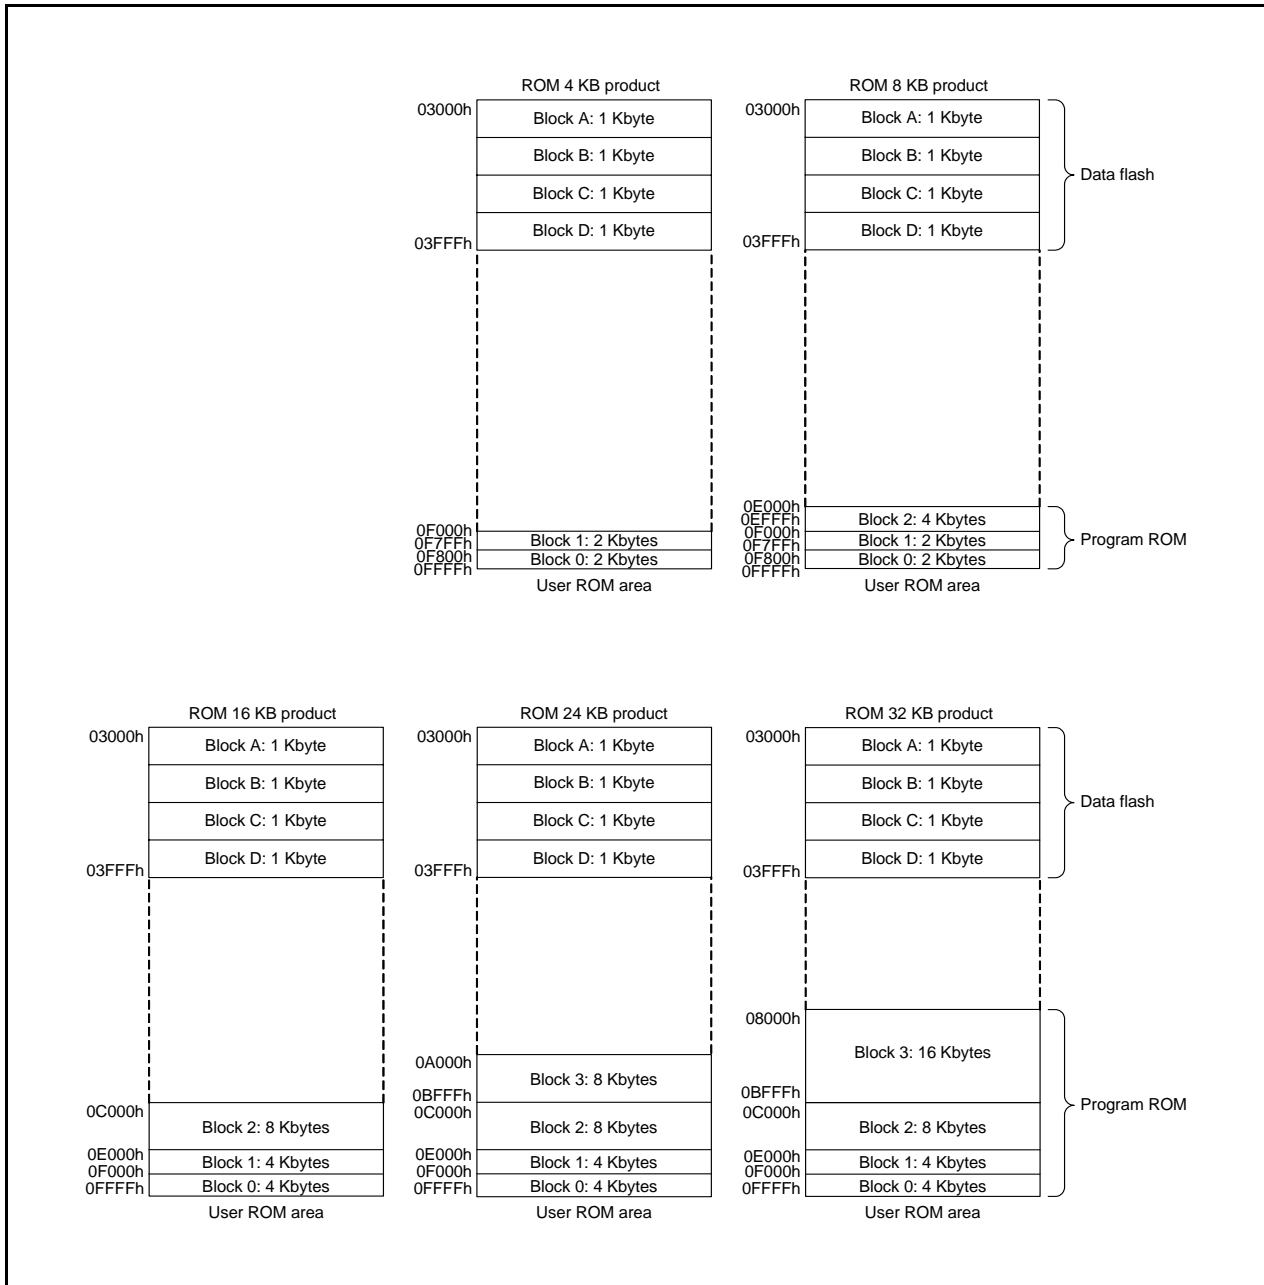

Figure 31.1 R8C/33A Group Flash Memory Block Diagram
- The number of blocks and block division vary with the MCU. Refer to **Figure 31.1 R8C/33A Group Flash Memory Block Diagram** for details.
Figure 31.1 show the R8C/33A Group Flash Memory Block Diagrams.